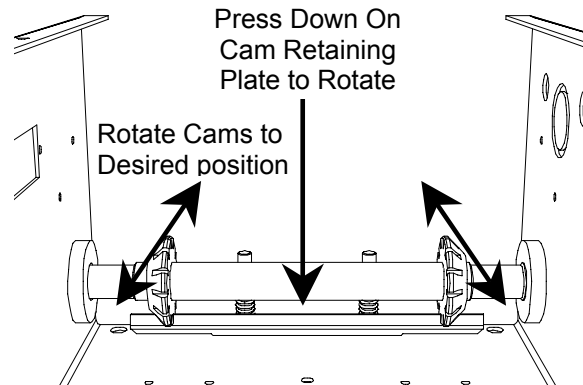

Figure 10 Adjusting the limit cams
3. Depress the travelling cam retaining bracket and rotate the *Open* cam (Figure 10).